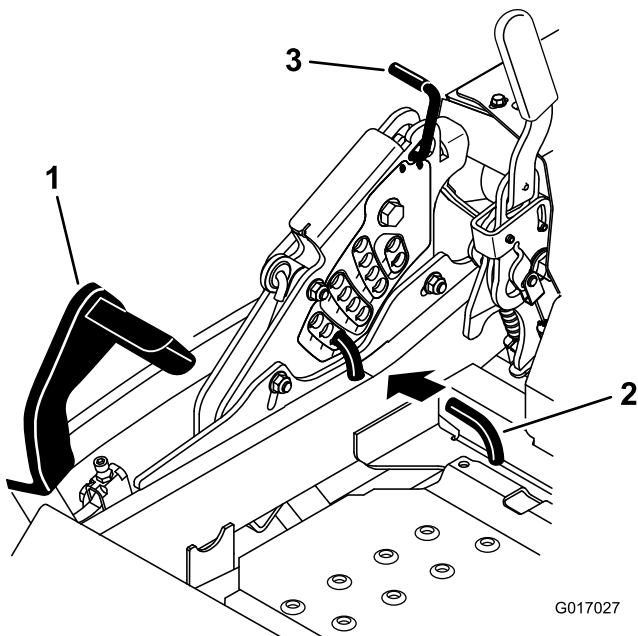

Figure 86
5. Push the deck lift pedal all the way forward and the deck will latch at the 5 1/2 inch (14 cm) transport position (Figure 86).